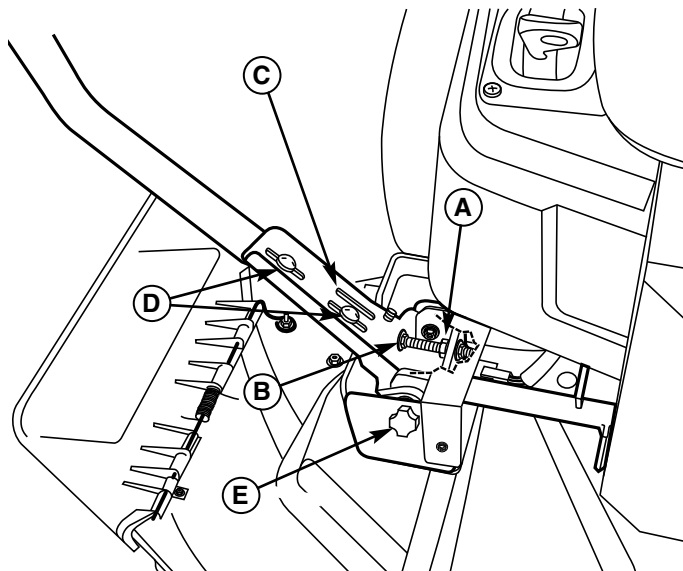
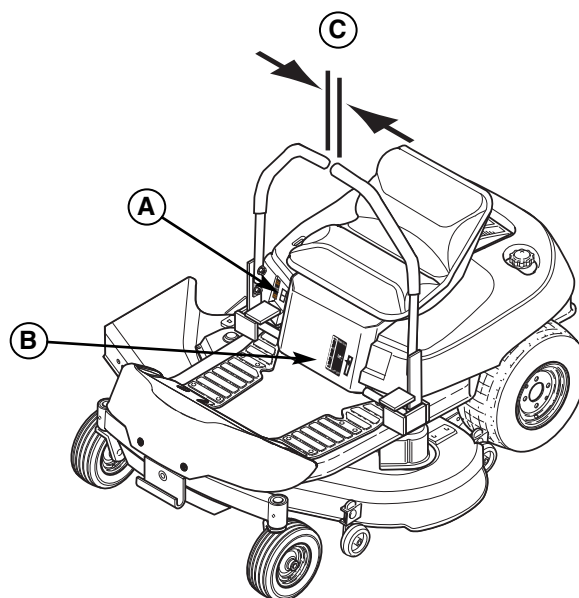

Figure 32. Control Lever Adjustment
Figure 33. Cutting Height Adjustment
To Adjust Control Lever Height: Pull the levers in across the operator's lap to their DRIVE positions. Loosen the mount bolts (D, Figure 32) and raise or lower the levers to the desired position. Tighten the mounting bolts.(D).
To Adjust Control Lever End Gap: The control lever end gap (C, Figure 33) should be adjusted so that the levers do not contact each other when placed in DRIVE positions. Loosen the jam nut (A, Figure 32) and adjust the length of the carriage bolt (B) so that the levers do not contact each other. Repeat on the opposite side. Tighten the jam nut (A) to lock the carriage bolt in position.
To Adjust Operator Clearance: The space between the operator and the control levers can be increase by removing the lower mounting bolt (D, Figure 32), pivoting the lever forward, and reinstalling the capscrew through the control lever and forward slot (C). Repeat with the other ground speed lever.
If the rider veers to the right or left when the ground speed control levers are in the maximum forward position, the top speed of the right lever can be balanced by turning the adjustment knob (E, Figure 32). Loosen the jam nut and turn the knob COUNTERCLOCKWISE to increase speed or CLOCKWISE to decrease speed. Tighten the jam nut when complete.
To increase the mower cutting height (raise the mower deck), press the top of the mower cutting height switch (A, Figure 33) To decrease mower cutting height (lower the mower deck), press the bottom of the switch. Mower cutting height range is 3-3/4" to 1-1/2". The cutting height gauge indicates the position of the mower deck.. The cutting height gauge (B) is located on the front of the rider, just behind the driver's left leg.